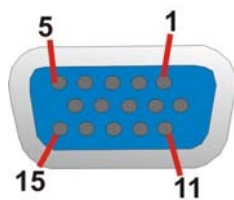

Figure 3-18: VGA Connector
- CN Pinouts:** See Figure 3-18 and Table 3-12